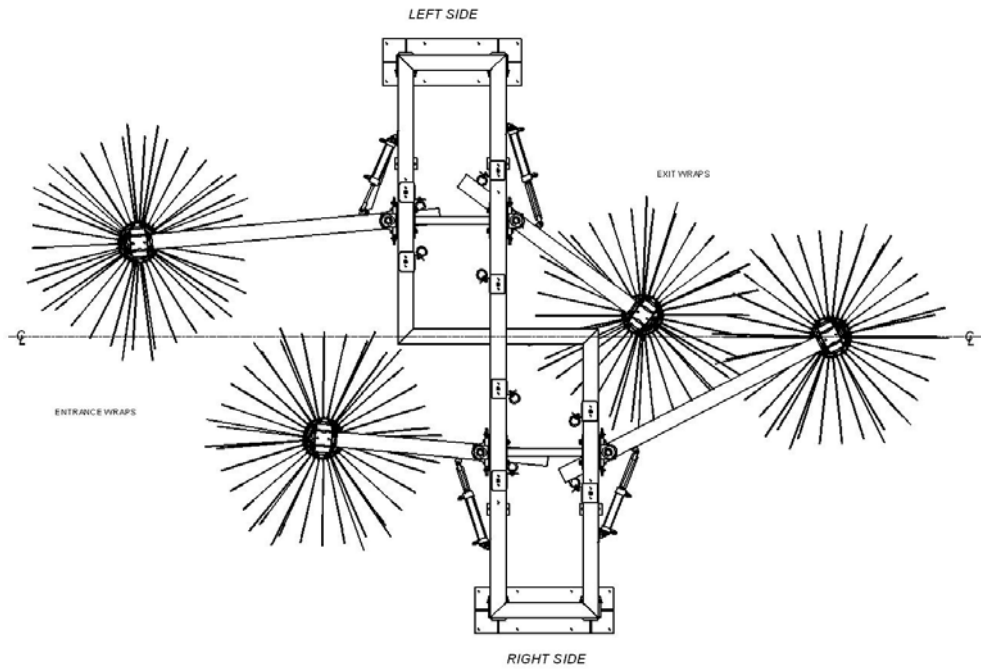

Figure 1-14. Dual Pack Flex Wrap in Extended Position
33. The entrance wraps shown in figure 1-14 are in the fully extended position. The bumper stops have been positioned to prevent the brushes from reaching the centerline. This lack of ‘cross-over’ is a mandatory safety feature and will prevent both vehicle and equipment damage.
40. The exit wraps shown in figure 1-14 are in their fully extended position. The bumper stops have been positioned to allow the brushes to nearly reach the centerline. This 'cross-over' is required for the washing of the front of any vehicle.
46. If your brushes do not have the amount of “cross-over” shown in figure 1-14, please check all bumper stops with the dimensions shown on the drawing.